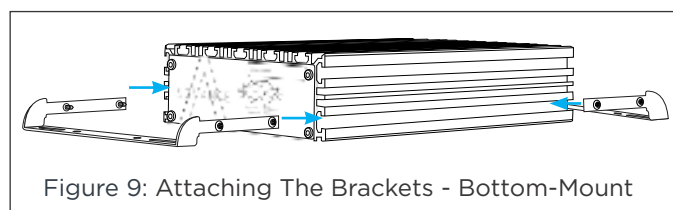

Figure 9: Attaching The Brackets - Bottom-Mount
3. **POSITION FOR MOUNTING ORIENTATION:** For bottom-mount installation (amplifier right-side up): Position the bracket arms in the T-slot on the bottom of the chassis at both the front and rear ends (see Figure 9). For top-mount installation (amplifier inverted): Position the bracket arms in the T-slot on the top of the chassis, ensuring the flat portion of the bracket arms will sit flush against the mounting surface when inverted